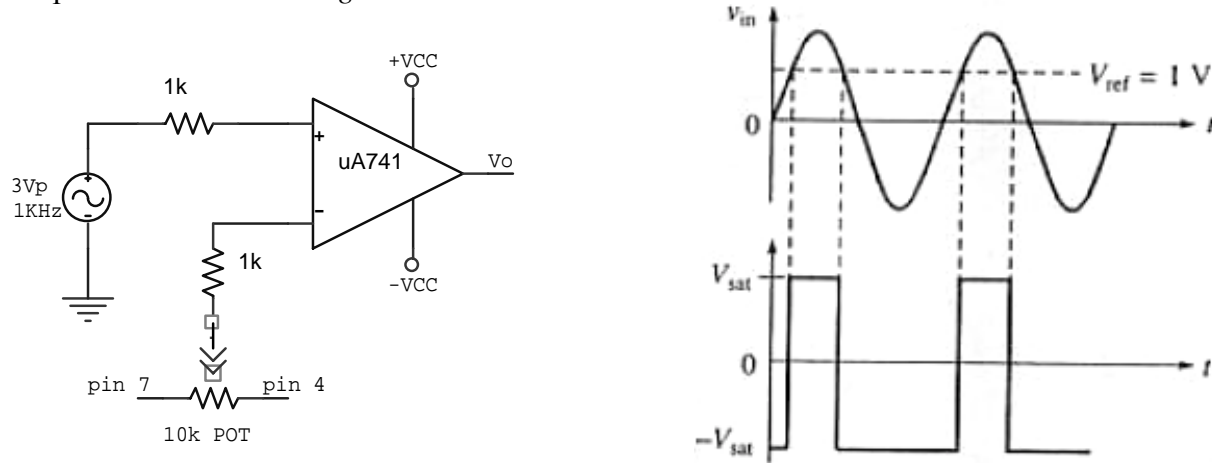

Fig 2-2-2(a) Basic non-inverting comparator, (b) input and output waveforms
A comparator, as its name implies, compares a signal voltage on one input of op-amp with a known voltage called the reference voltage on the other input. Fig. 2-2-2 (a) shows an op-amp comparator used as a *voltage level detector*.
Let us say that a fixed reference voltage V_{ref} of +1V is applied to the inverting input and the other time varying signal voltage V_{in} is applied to the non-inverting input. Because of this arrangement, the circuit is of non-inverting type. When V_{in} is less than V_{ref} , the output voltage V_o is $-V_{sat}$ because the voltage at the inverting input is higher than V_{in} is greater than non-inverting input. On the other hand, when V_{in} is greater than V_{ref} , V_o goes to $+V_{sat}$. This V_o changes from one level to another level whenever $V_{in} = V_{ref}$ as shown in fig. 2.2.2 (b). At any given time, the circuit shows whether V_{in} is greater than or less than V_{ref} . The circuit is hence called a *Voltage level detector*.
- 1.1 Design a voltage level detector as shown in fig.2-2-2 (a) to detect a voltage level of 1V in a sinusoidal input voltage. Consider $R=1\text{k}\Omega$. Use 1N4002 diodes. Assemble the circuit.
1. The circuit of fig. 2-2-2(a) can be called “*go-no go detector*”. Explain why it is called so?
2. In the fig. 2-2-2 (a), if the POT is adjusted for $V_{\text{ref}} = -1\text{V}$, what would be the output?
3. Set $V_{\text{ref}} = 0\text{V}$ in fig. 2-2-2 (a) to make a zero crossing detector observe the output waveform and record your comments.